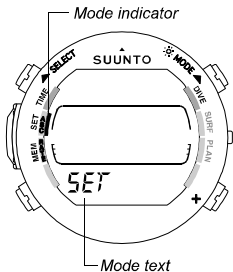

Fig. 5.2 The Setting Mode is indicated by the SET text and mode indicator.
Enter the Setting Mode from other modes by pressing the **MODE** button. The text SET at the bottom and the mode indicator on the left side of the display indicate the selected mode (Fig. 5.2).
6. After you have set the time and date, press the  $\text{MODE}$  button to save the settings and to return to the Setting Mode (Fig. 5.2).
- The 12-hour or 24-hour format of the alarm matches the format of the timekeeping display, which is selected in the Time Adjustment Mode (see section 5.1, “Setting Time and Date”). When using the 12-hour format of the alarm, take care to set the time correctly as morning (AM) or afternoon (PM).
6. After you have set the daily alarm, press the  $\text{MODE}$  button to save the settings and to return to the Setting Mode [SET] (Fig. 5.2).
6. After you have set the depth alarm, press the **MODE** button to save the settings and to return to the Setting Mode [SET] (Fig. 5.2).
6. After you have set the desired Altitude and Personal Adjustment Modes, press the  $\text{MODE}$  button to save the settings and to return to the Setting Mode [SET] (Fig. 5.2.).